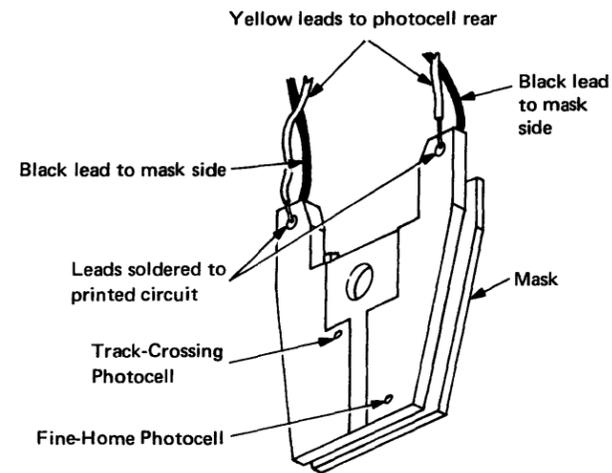

Figure 2-32. Photocell Assembly – Adjustment and Details [07555]
- Detent the carriage at track 000, and check that the '0' slot in the drive disk is opposite the track-crossing photocell hole in the mask (Figure 2-32).
**Photocells:** Any failure entails changing the assembly, part 2537349 (see Figure 2-32).